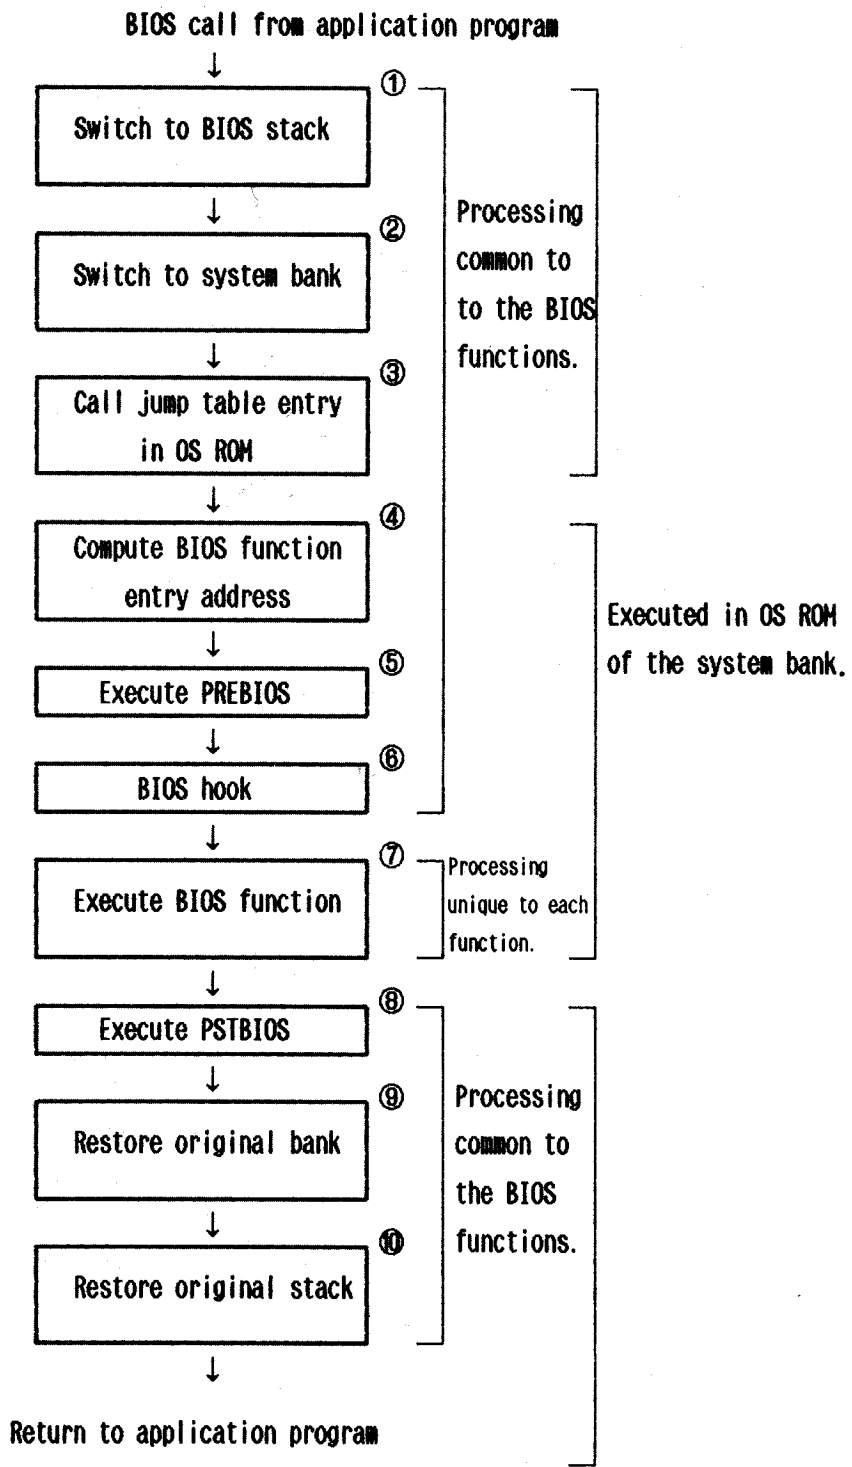

Fig. 3.3.2 BIOS Processing Flow
The BIOS hook is referenced immediately before control is transferred from OS ROM on the system bank to a BIOS function. Figure 3.3.2 shows the relationship of the BIOS hook to BIOS in a flowchart form. Note that only steps 3 through 8 in Figure 3.3.2 are taken when BIOS is called from BDOS.
| 7 | Restore stack pointer and return | <ul style="list-style-type: none"> - Restore the stack pointer saved in step 1. - Return. On return, control is passed to the main OS BIOS section. <p>- When you don't want to utilize the BIOS function in the OS, pop the stack level two levels (4 bytes) and return. You will find that item 7 in Fig. 3.3.2 is skipped, and operation goes directly to item 8.</p> | | | | | | | | |